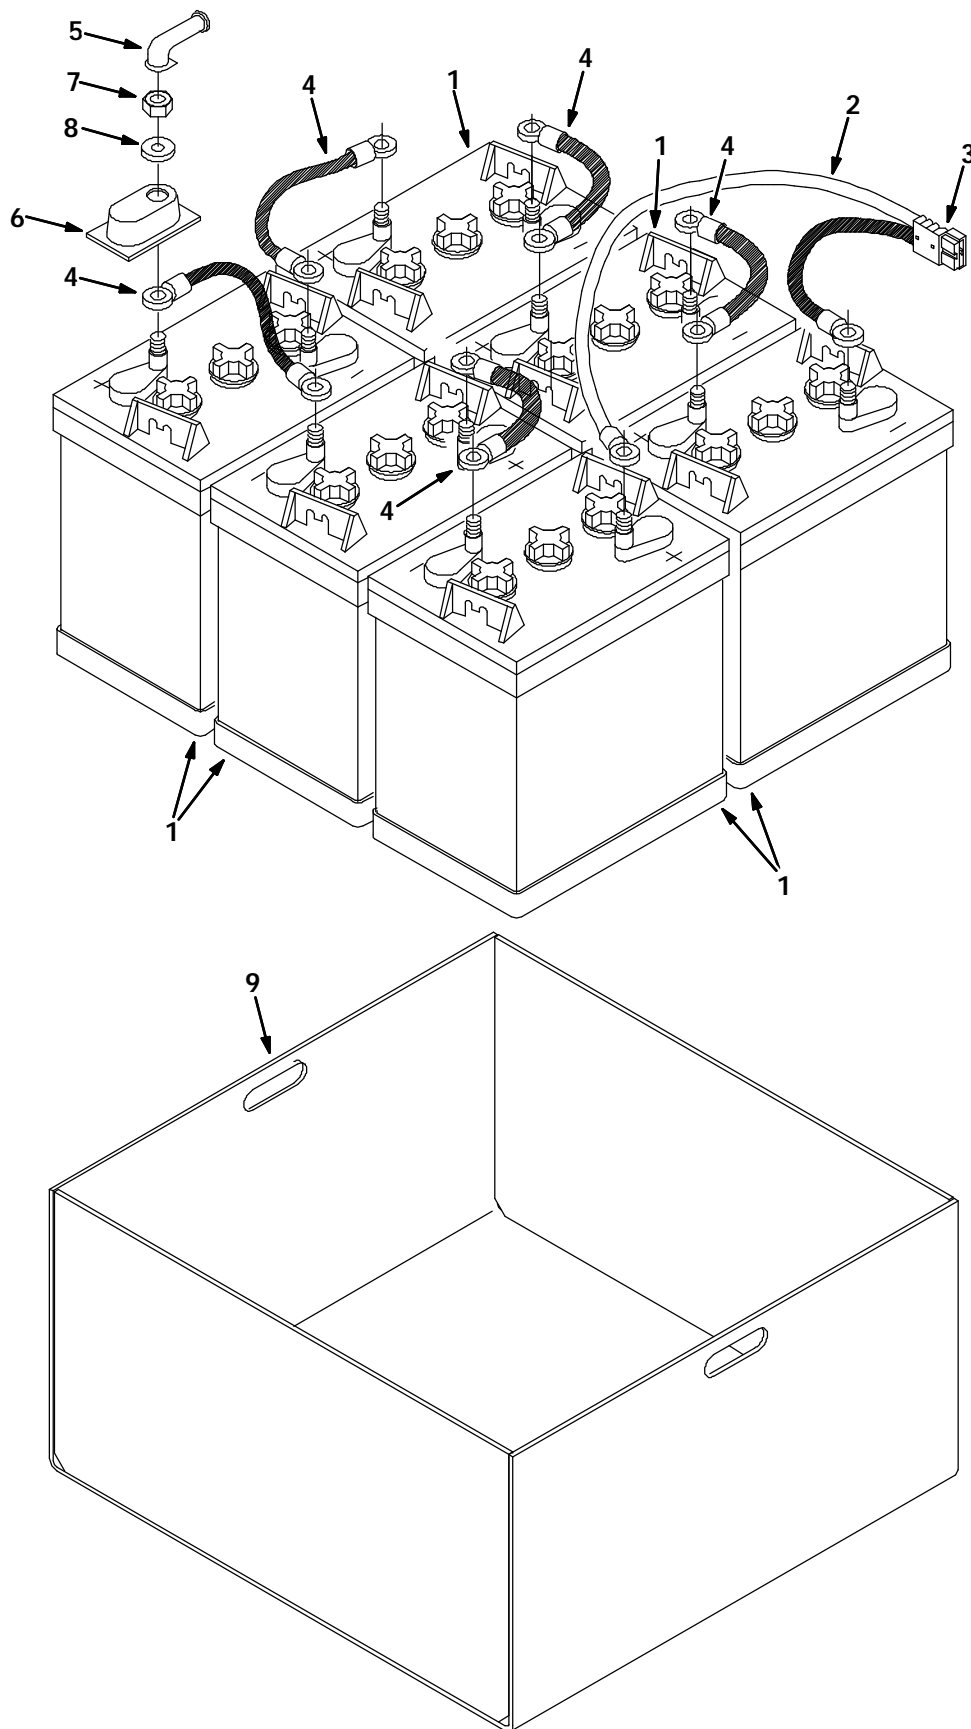

FIG. 1 -
(Refer to FIG. 1)
1. Place the batteries (1) in the battery case (9) with the positive battery posts to the inside of the case. (Refer to FIG. 1)
2. Connect all of the battery cables (4,2) to the batteries (1) as shown in figure 1.